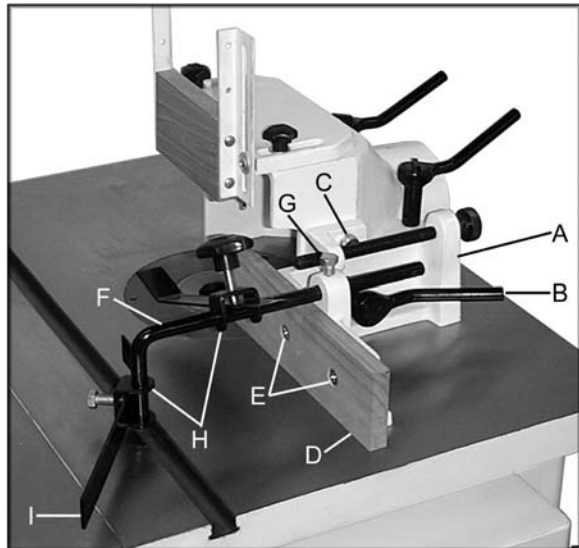

Figure 2
8. Tighten hex cap bolt (C, Figure 2) into the dust chute using a 14mm wrench.
9. Attach the wooden fence (D, Figure 2) to the fence bracket assembly using two countersink flat head screws (E, Figure 2), two large flat washers, two lock washers and two hex nuts.
10. Feed the guide support (F, Figure 2) into the fence assembly and secure with a hex cap screw (G, Figure 2).
11. Slide the two brackets (H, Figure 2) onto the guide supports. Place the guide plates (I, Figure 2) between the brackets and the supports. Tighten knob and hex cap bolt to secure the guide plate in place. **Note:** Repeat for opposite side fence